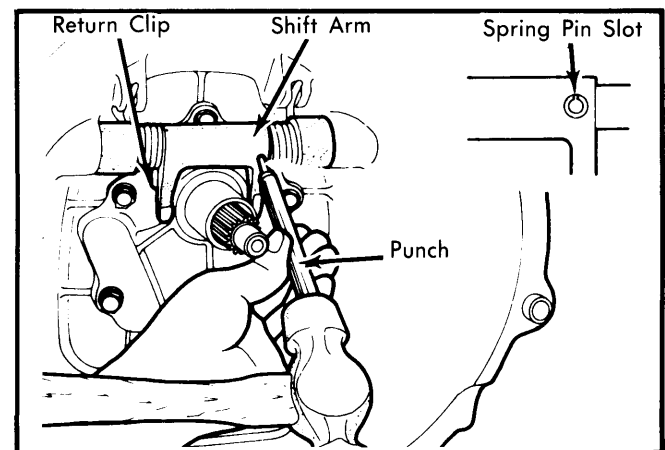

Fig. 2 Installing Shift Arm Spring Pins
2) Apply grease to inside of bushing and oil seal lips. Apply engine oil to felt packings. Align shift arm pin holes and control shaft pin holes. Drive spring pins into position. See Fig. 2.